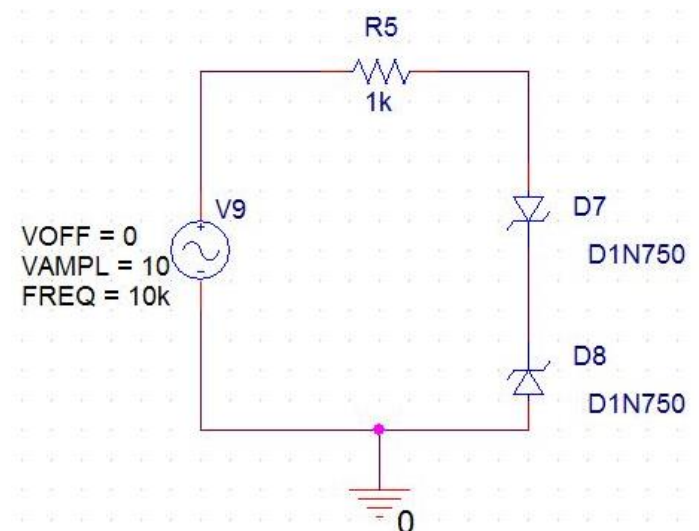

Figure 1B – Circuit Diagram for Limiter Circuit II
- Patch-up the circuit shown in figure 1B above.